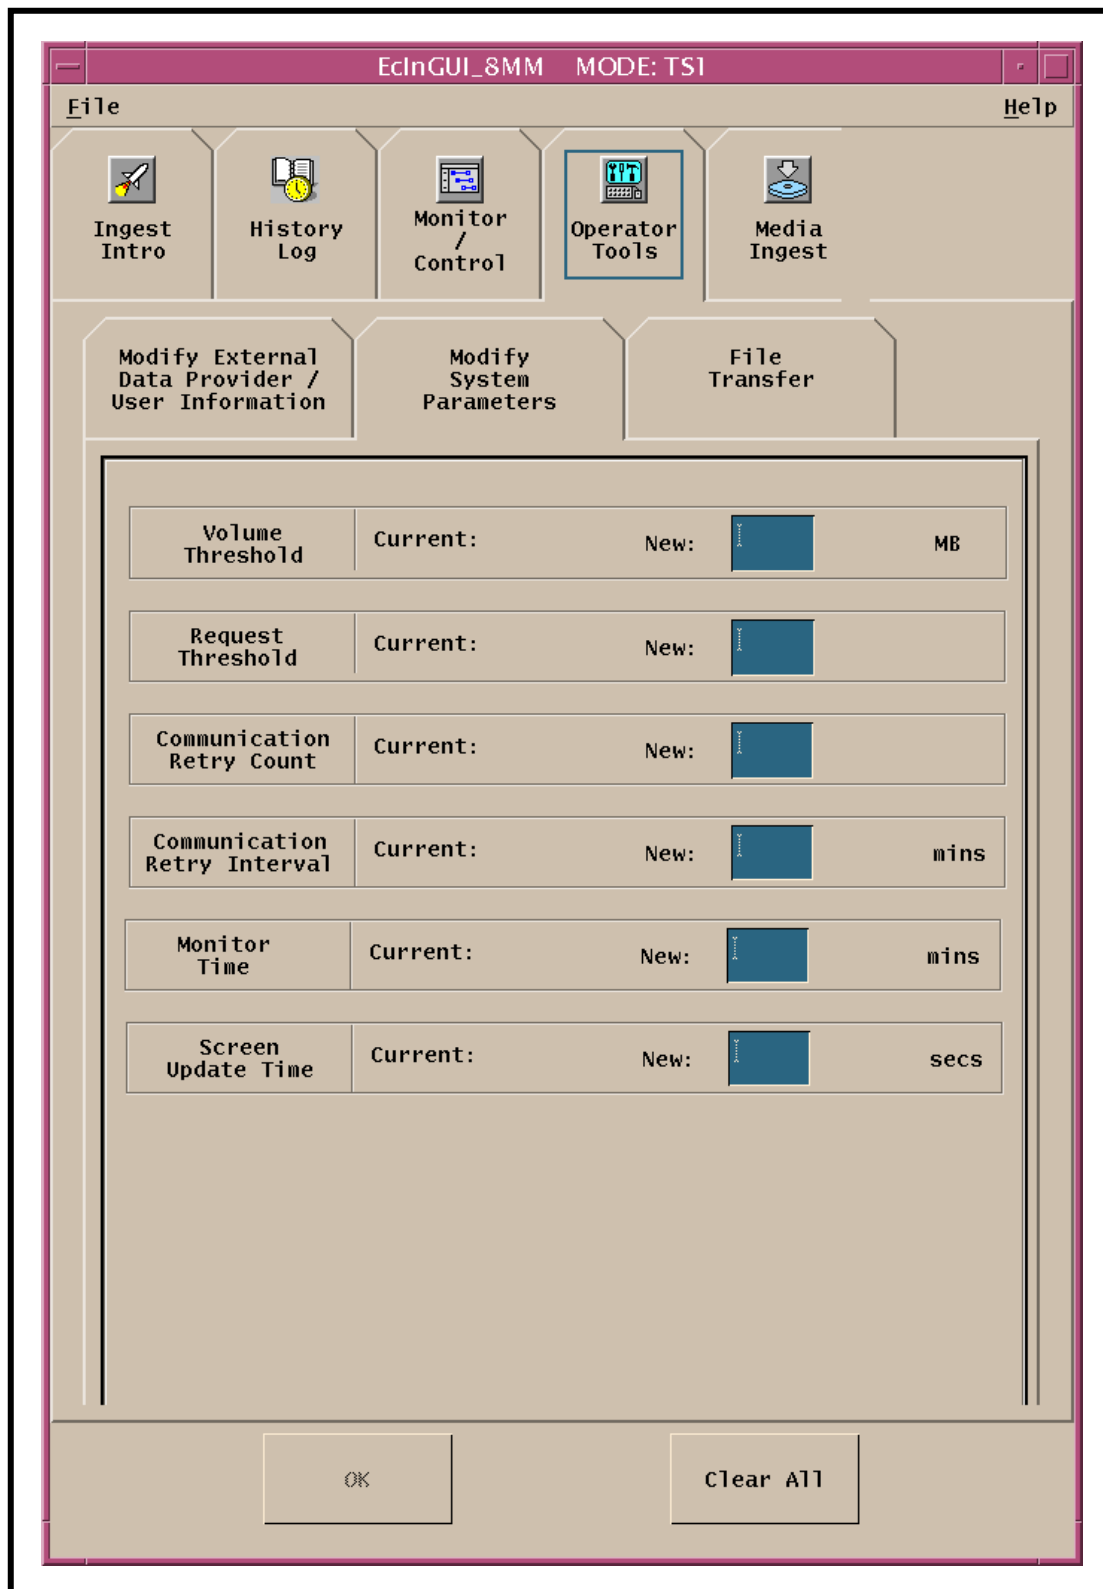

Figure 36. Ingest System Parameter Modification Screen
Figure 36 shows the screen for modifying system parameters that can be modified through the Ingest GUI. It has the following uses:
- The **Modify System Parameters** screen (Figure 36) is displayed.